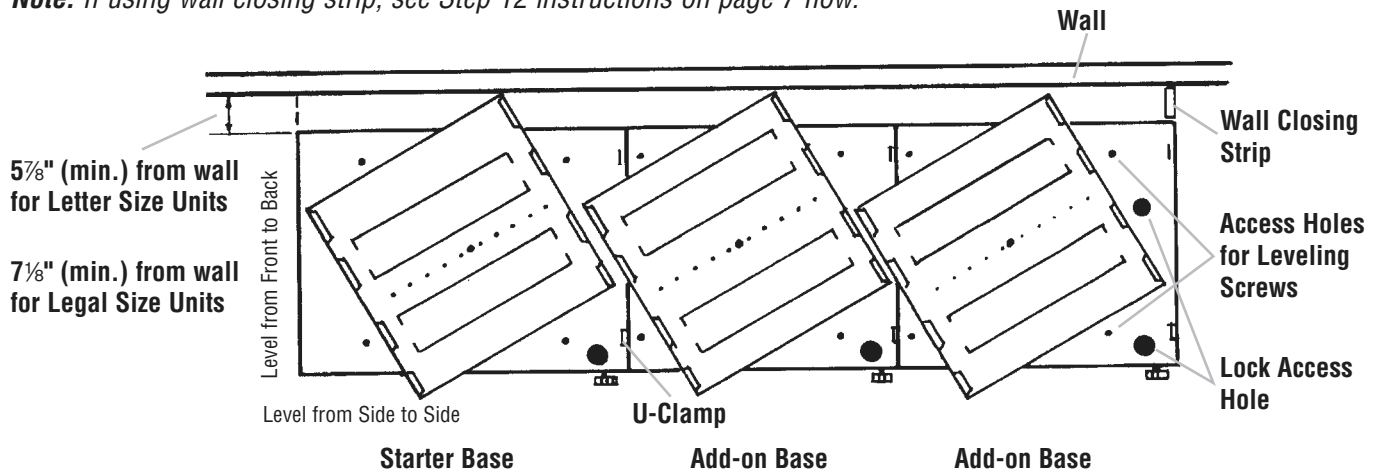

Figure 3 - Base Layout
STEP 2 - BASE LAYOUT (Figure 3)
Position Bases as shown in Figure 3: 5⁷/₈" (min.) from wall for Letter Size Units, 7⁷/₈" (min.) from wall for Legal Size Units.
- c. Turn all rotor bottoms in the same direction to expose holes for access to the leveling screws (Figure 3).